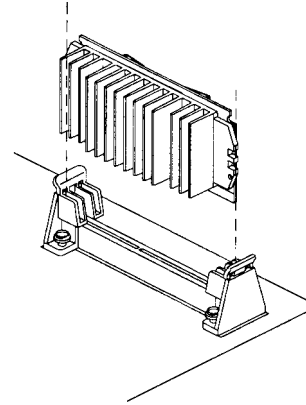

Figure 3-8: Inserting the Celeron processor into its RM.
2. Align the processor with the RM and slowly slide the processor into it (see Figure 3-8).